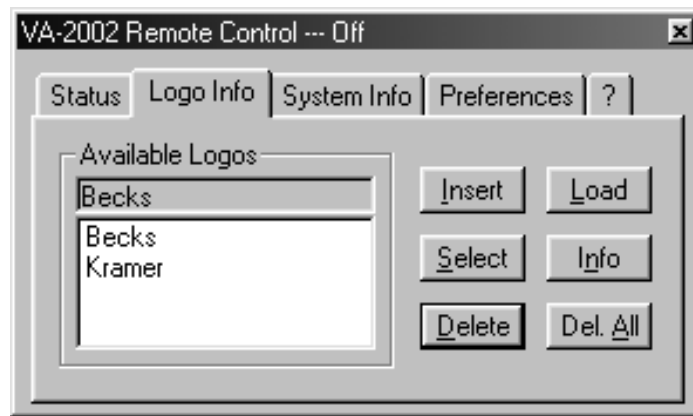

Figure 22: Logo Info Window (Before RS-232 Transfer)
1. Click the Logo Info tab, as Figure 22 illustrates: